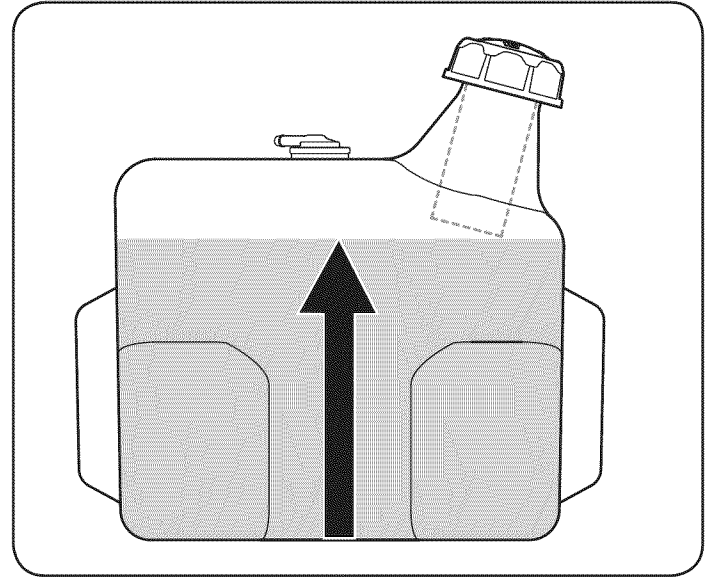

Figure 6
**NOTE:** The tractor is fitted with a tethered, ratcheting fuel cap. STOP filling the tank once the fuel is seen inside the filler neck. This ensures that a proper expansion volume is created, otherwise the fuel can overflow creating a hazardous situation. Do NOT top off the fuel tank. See Fig. 6.